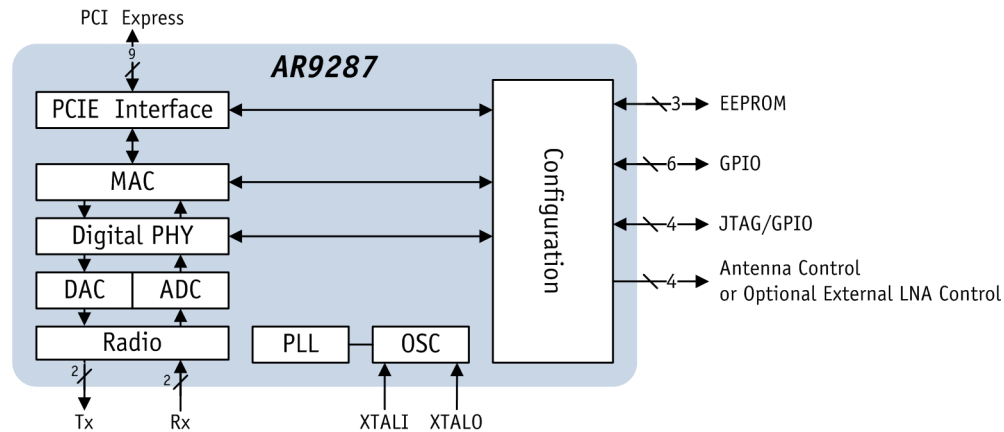

Figure 2-1. Functional Block Diagram of the AR9287
The baseband digital processing functions are implemented by the digital PHY of the AR9287. The radio frequency (RF) and baseband analog processing are provided by the integrated radio. The physical layer (PHY) is partitioned between the baseband processor and the radio. The configuration block, PLL, ADC, DAC, EEPROM interface, JTAG, antenna control, and GPIO complete the AR9287 functionality. See Figure 2-1.